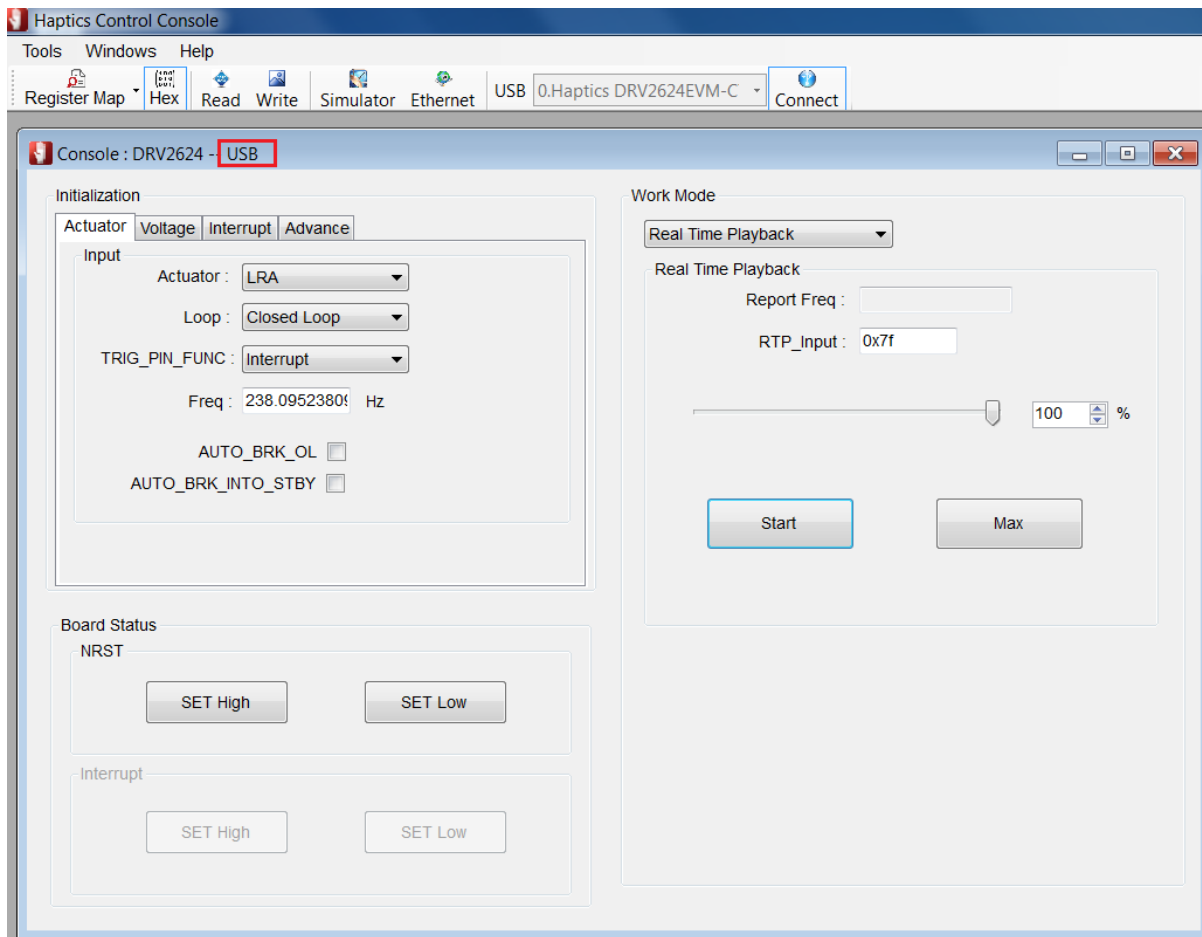

Fig. 4: The console window for the DRV2624 once the board is connected properly.
**Note:** at the top left of the console window, after DRVXXXX, it must say “USB” as boxed in red (shown below in Fig. 4). If instead it says “Simulator,” then the board is not fully connected and the user will not be able to program the device. If it does not read properly the first time, try removing the USB from the computer, restarting HCC program, and connecting again.